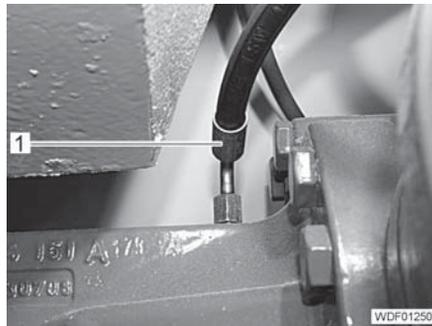

Fig. 247 Hydraulic line of the differential lock
- Screw the hydraulic line of the differential lock (Fig. 247,1) onto the connection on the axle bracket and tighten.